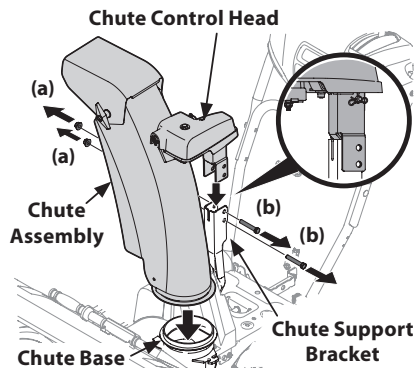

Figure 2-21
1. Remove lock nuts (a) and hex screws (b) from chute support bracket (this will require two wrenches). See Figure 2-21.
2. Place chute assembly onto chute base and chute control head onto chute support bracket. See Figure 2-21.